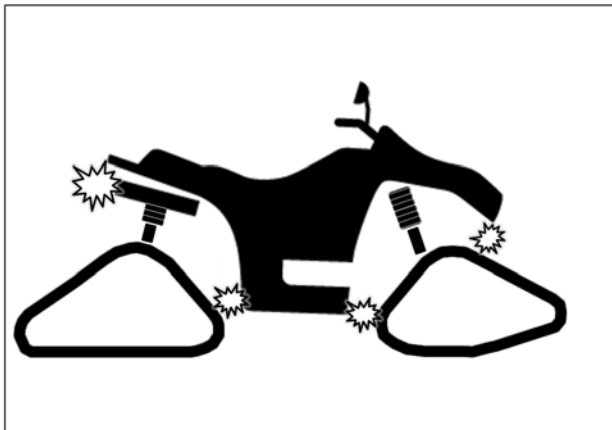

Fig. 23
2. Verify for possible contact between Track System and lower fender corners. See Fig. 23